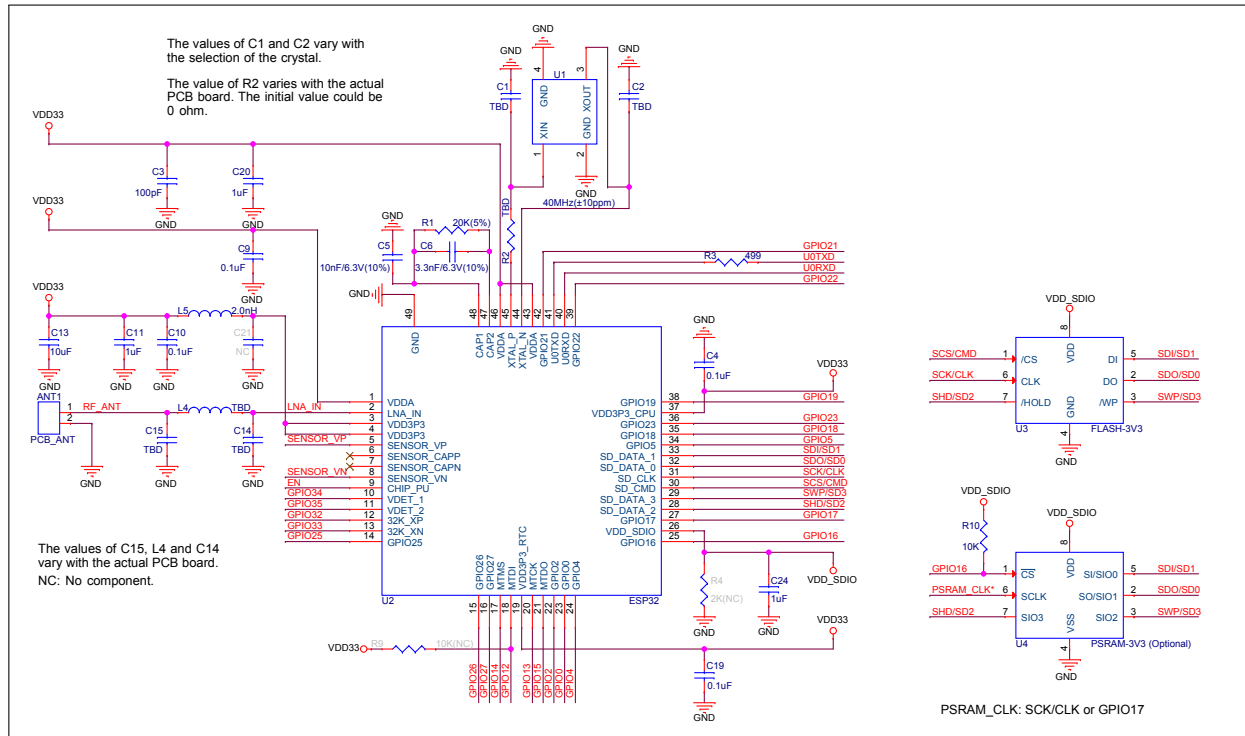

Figure 1: ESP32 Schematics
To better ensure the performance of ESP32, this chapter details ESP32 schematics design. ESP32 schematic is shown in Figure 1.
- Figure 1 shows the connection for quad 3.3 V external flash/PSRAM. PSRAM CLK is from SCK/CLK or GPIO17.
- In cases when quad 3.3 V SiP PSRAM (such as ESP32-D0WDR2-V3) or an external flash is used, PSRAM CLK is from SCK/CLK. See Figure 1.
The ESP32 schematics for the external quad flash/PSRAM is shown in Figure 1.